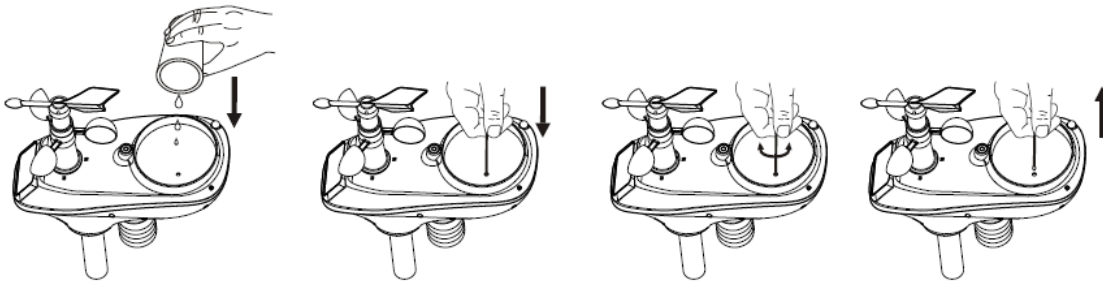

Figure 36
1. Clean the rain gauge once every 3 months as follows. Reference Figure 36.